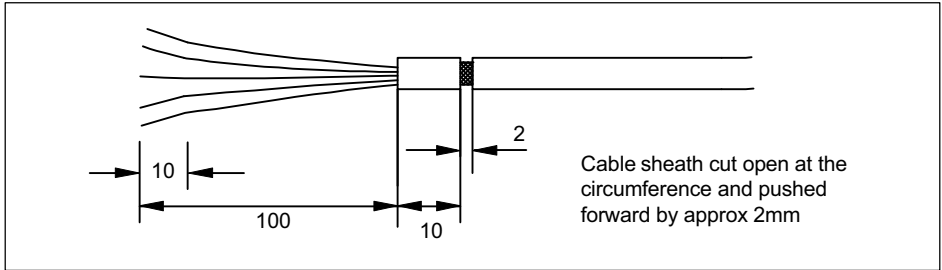

Fig. 8.1 Slit cable sheath
1. You can get to the screen through a slit in the cable sheath (*see Fig. 8.1*).